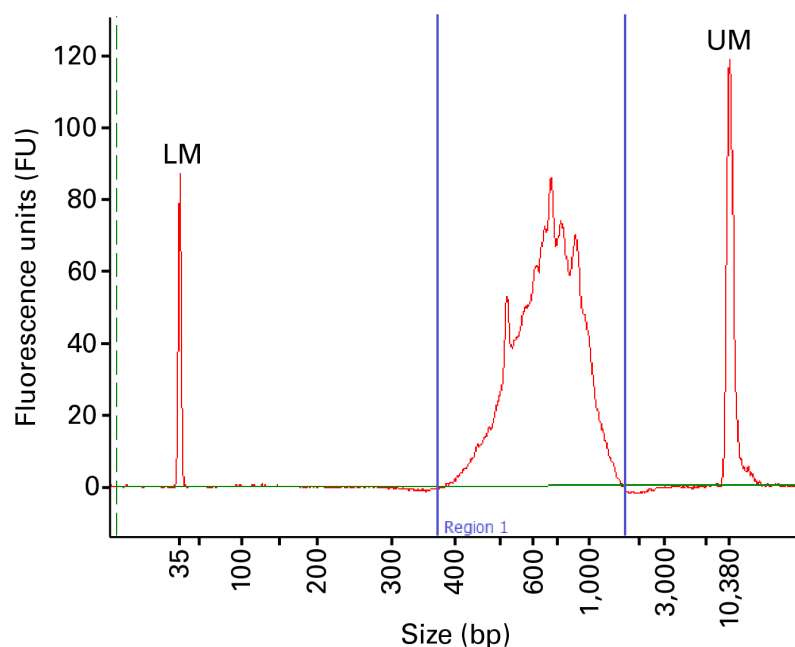

Figure 17. Typical Bioanalyzer trace for purified Nextera XT NGS library that has been normalized to 1 ng/µl.
29. Use the Bioanalyzer results to determine library quality (see Figure 17, below, for an example of a typical Bioanalyzer profile for an NGS library that has been successfully purified and size selected).